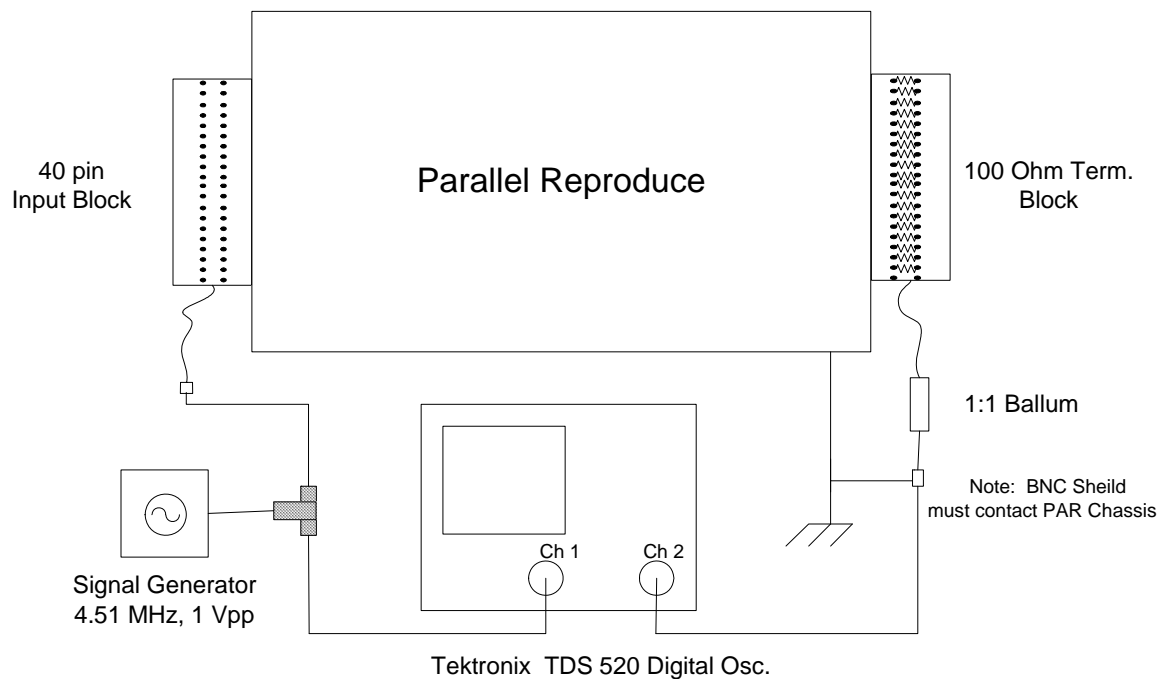

Figure 1
3. Connect the unit under test as shown on Figure 1.